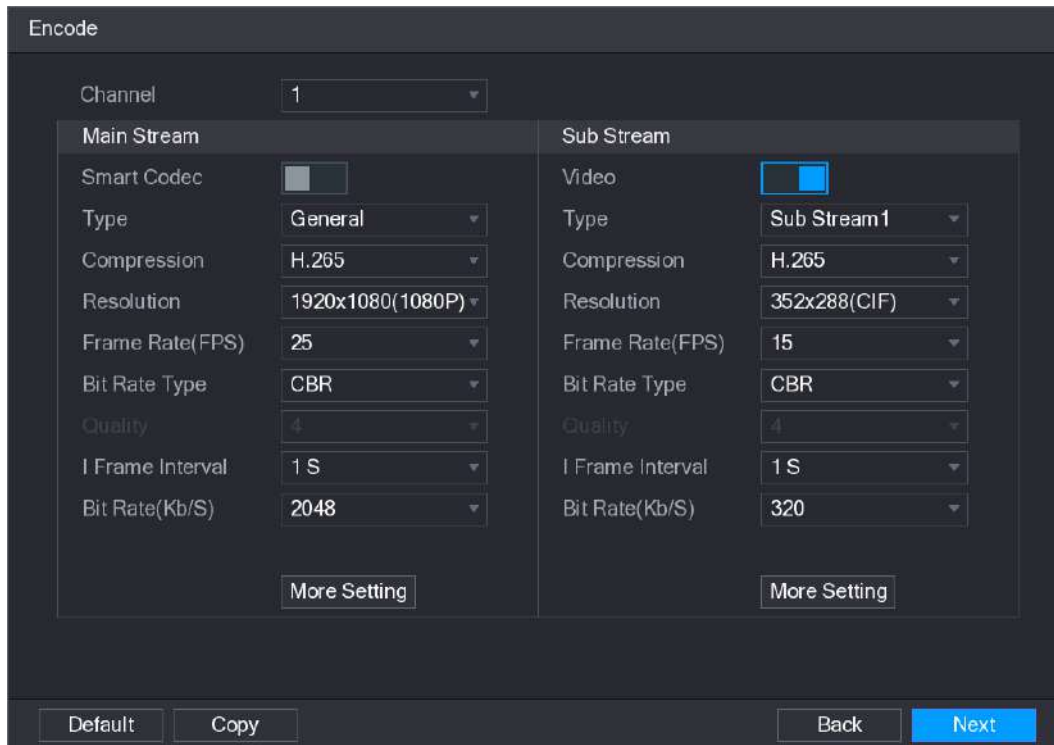

Figure 5-24
Step 1 After you have configured the P2P settings, on the **P2P** interface, click **Next**. The **Encode** interface is displayed. See Figure 5-24.